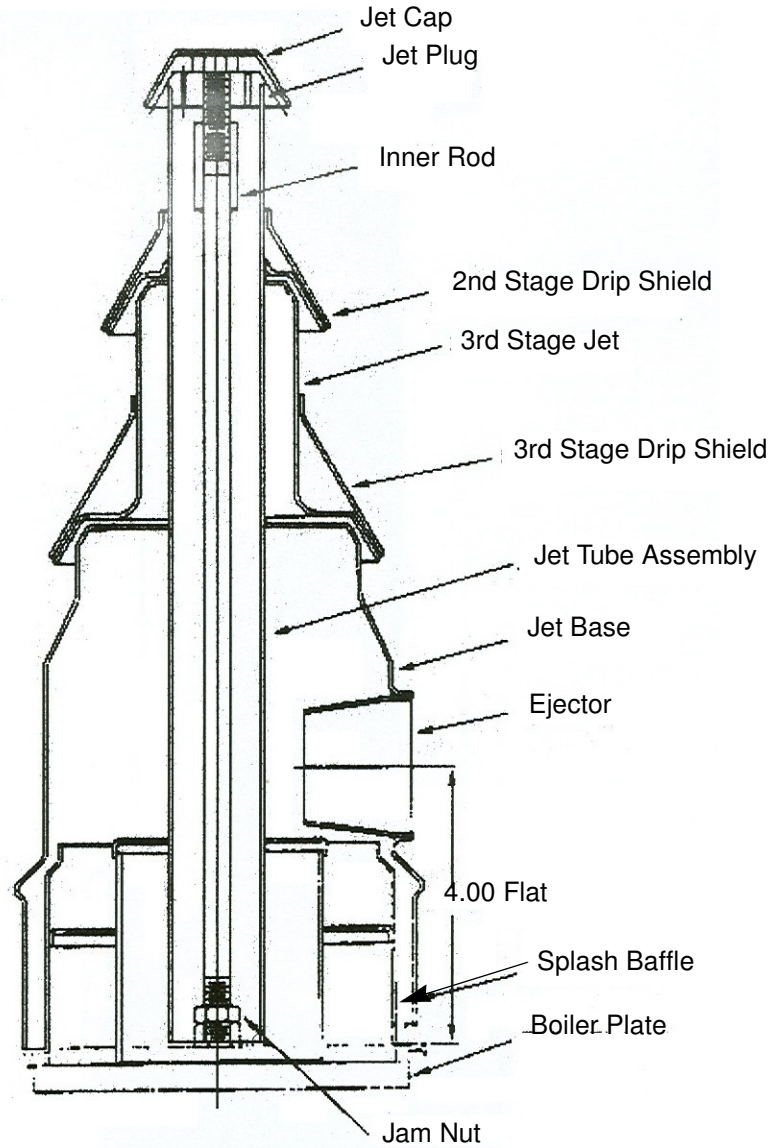

Figure 3-3 VHS-4 Diffusion Pump Jet Assembly
1. Remove the cold cap from the pump (Figure 3-3).